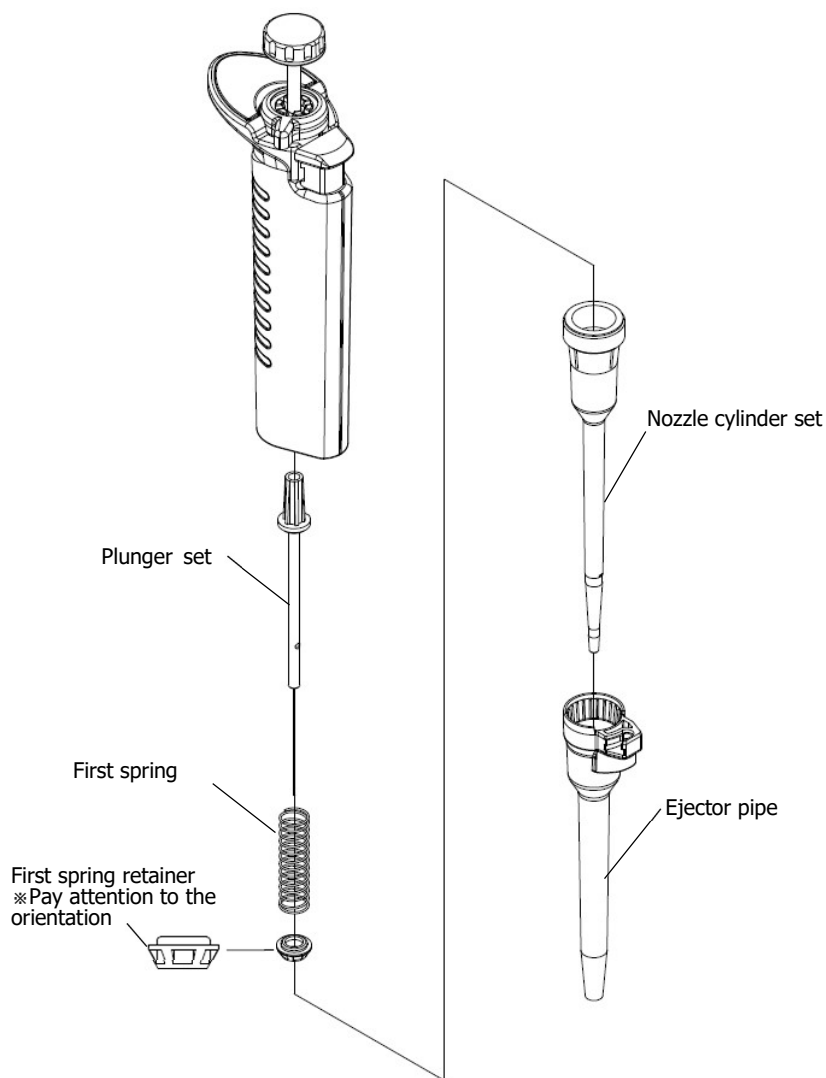

Fig. 4-2
- 2 μ L, 10 μ L:(Fig.4-2)
- 2 μ L, 10 μ L : (Fig.4-2)